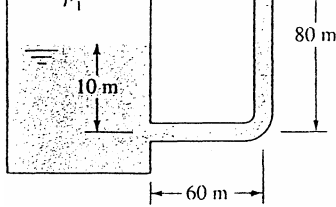

Fig. P6.52
6.52 The pipe flow in Fig. P6.52 is driven by pressurized air in the tank. What gage pressure p_1 is needed to provide a 20°C water flow rate $Q = 60$ m³/h?
6.53 In Fig. P6.52 suppose $p_1 = 700 \text{ kPa}$ and the fluid specific gravity is 0.68. If the flow rate is $27 \text{ m}^3/\text{h}$, estimate the viscosity of the fluid. What fluid in Table A-5 is the likely suspect?